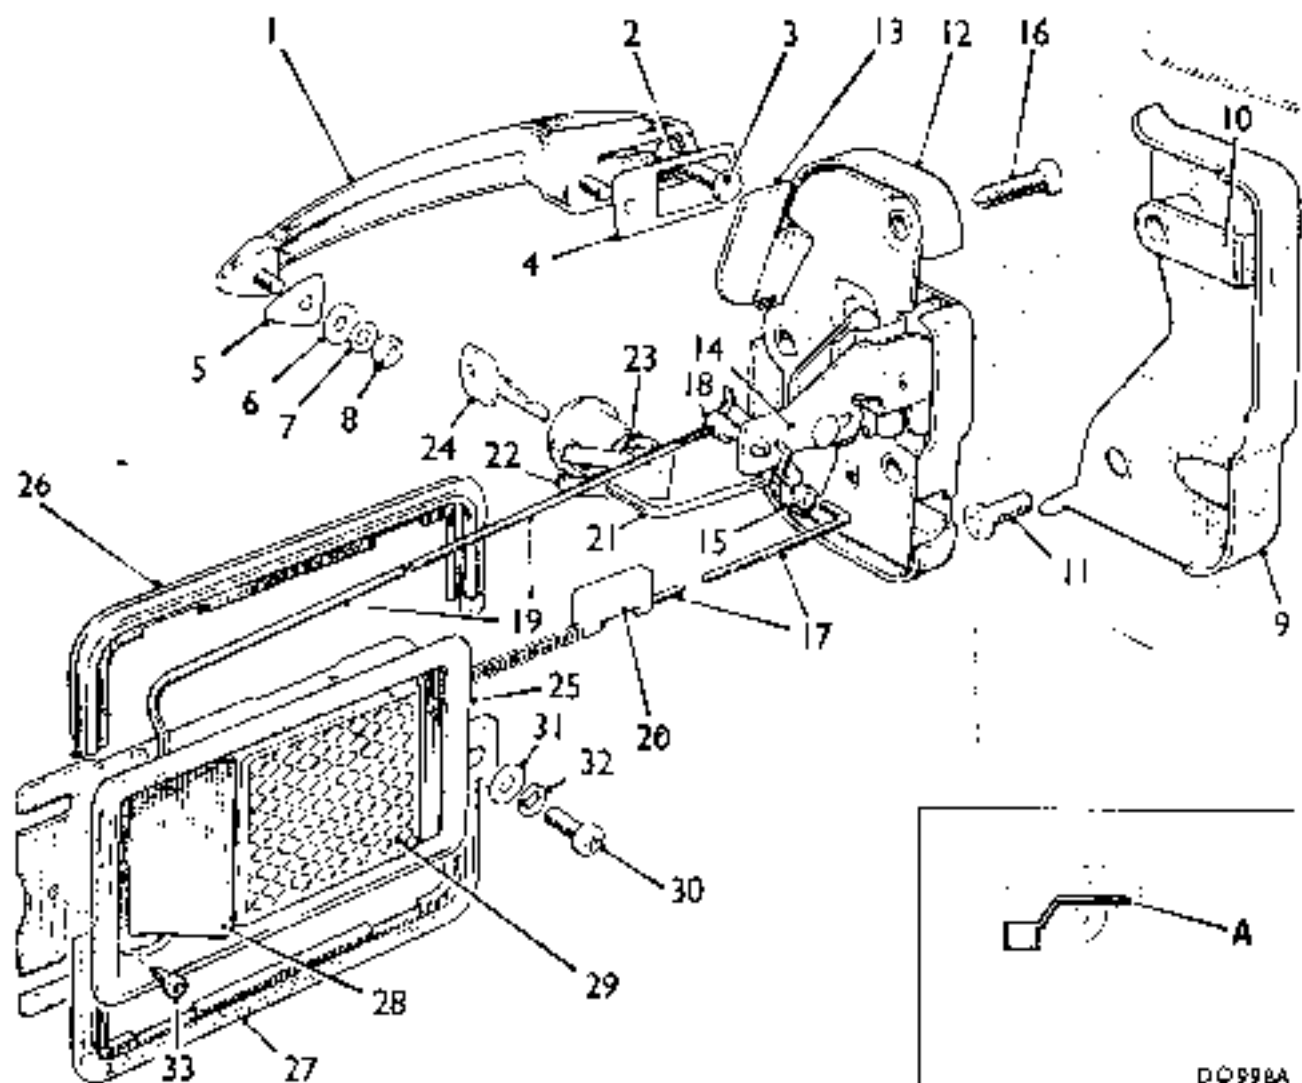

Fig. R.11
9. Check that the plastic bushes and spring clips are correctly assembled in their respective holes in the release lever and the locking slide. Each bush must be fitted with its head away from the centre of the latch with the spring clip fitted under the head (see inset A, fig. R.11).